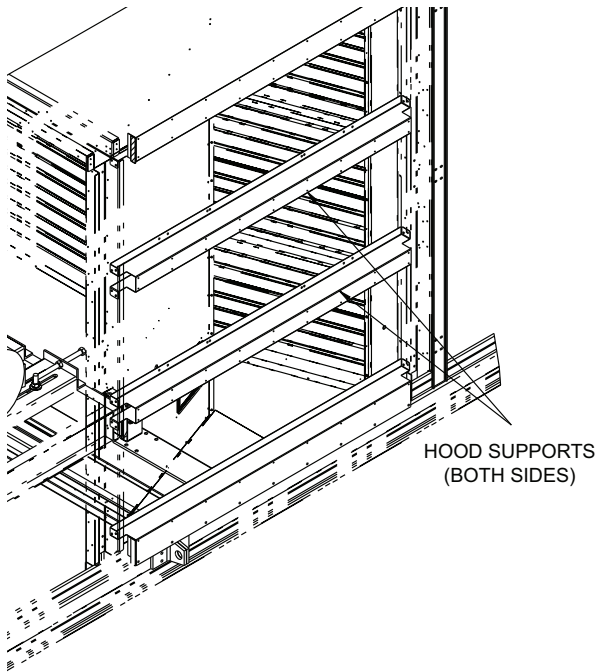

Fig. 23 — Hood Supports
- b. Remove the hood supports (quantity 2 or 3 for larger units) (see Fig. 23).
- d. Reinstall hood supports (Fig. 23).